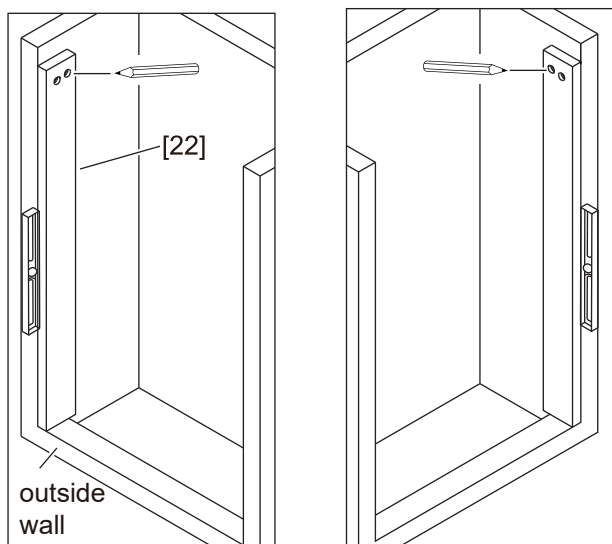
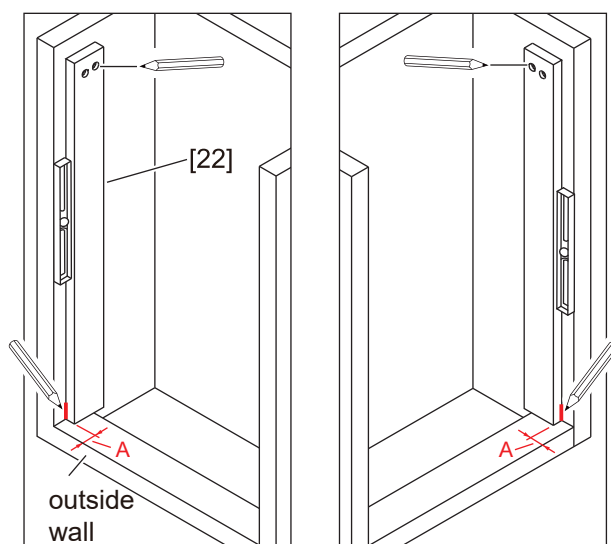

Fig 2.1
Fig 2.2
1. If this shower door is intended to be installed with **Bottom Rail [04]** flushing with the outside wall, position the **Template [22]** to the side wall of shower room with one of its side flush with the outside wall. (Fig 2.1)
2. If this shower door is intended to be installed with **Bottom Rail [04]** behind the outside wall, position the **Template [22]** to the side wall of shower room with one of its side A" behind the outside wall. A" is the distance between the side of the **Template [22]** and the outside wall. (Fig 2.2)
3. Use a pencil to mark the screw holes on the wall through the **Template [22]**. (Fig 2.1, Fig 2.2)
4. Use a pencil to draw a line on the side wall along the side of **Template [22]** near the threshold. (Fig 2.2)